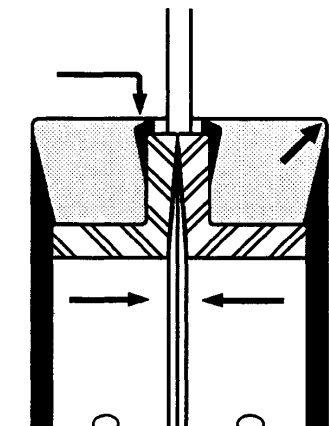

Fig. 14.67. Seal Kit Final Installation
- Final installation assembly will energize seal as shown in Fig. 14.67, so that rubber rings load seal and drive mating metal rings together.